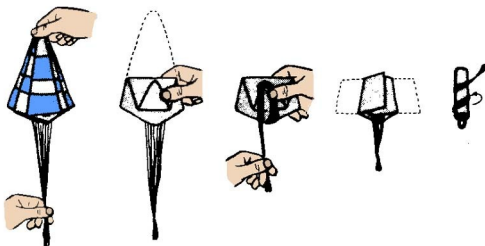

Figure 10
- **Step 22** Study the illustrations in Fig. 10 to see how to correctly fold the parachute. Attach the snap link to the screw eye only when you are ready to fly. Do not store the parachute in the body of the rocket between flights. In cold climates, or during winter months, you will find it helpful to give the parachute a light dusting of talcum powder. This will help the parachute open at deployment by keeping the plastic from